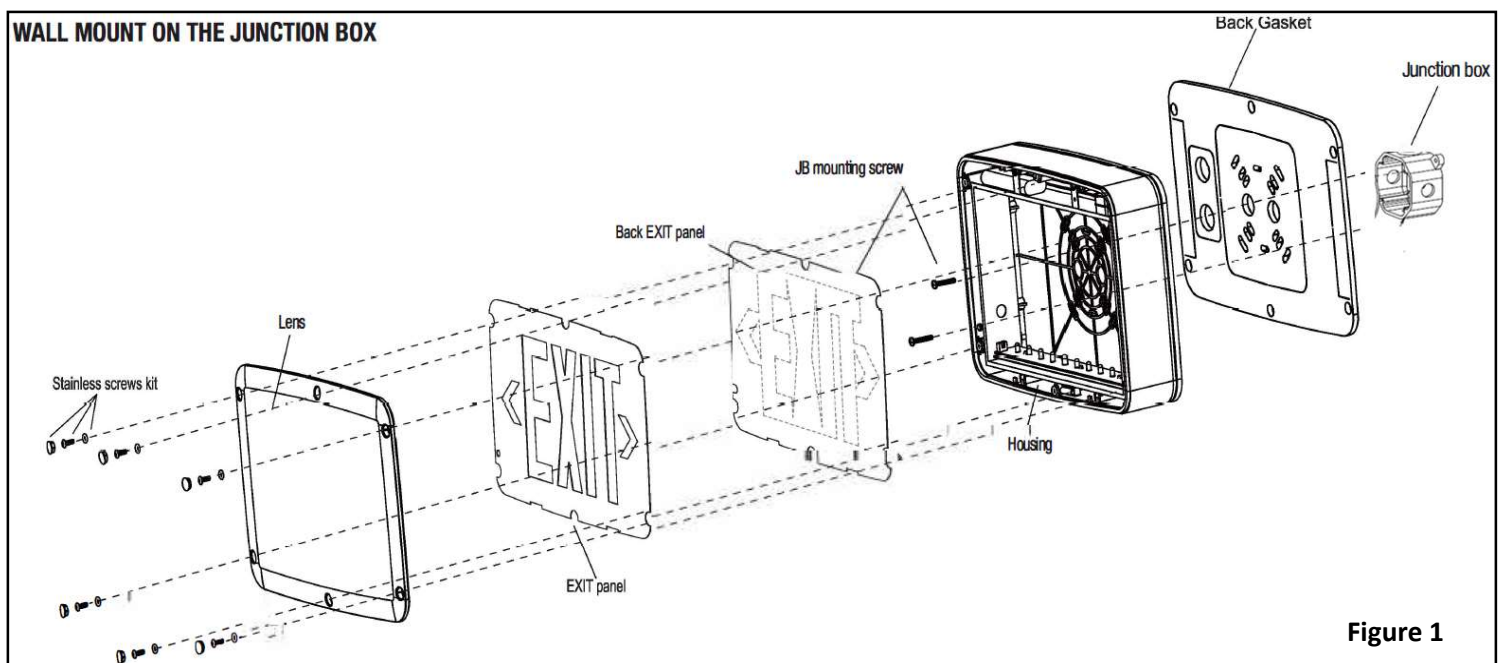

Figure 1
3. Separate the lens and EXIT panel assembly (three pieces) from the housing (Figure 1).
2. Remove the (2) side gaskets from the gasket sheet provided and attach the sheet to the fixture backplate.
3. Mount the (2) surface mounting brackets provided onto the backplate and secure using the screws provided.
4. Place the housing on the required surface. Drill (4) holes using the brackets holes as a drilling template and fix the mounting anchors inside the holes.
6. Separate the lens and EXIT panel assembly (three pieces) from the housing (Figure 1).
11. Mount the fixture to the surface using the (4) mounting screws and previously installed screw anchors.